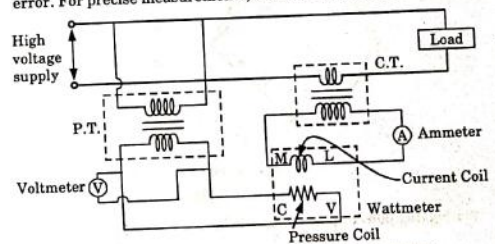

Fig. 3.7.1. Power measurement using C.T. and P.T.
2. The range of wattmeter can be extended using instrument transformers, in such high voltage circuits. The connections are shown in Fig. 3.7.1.